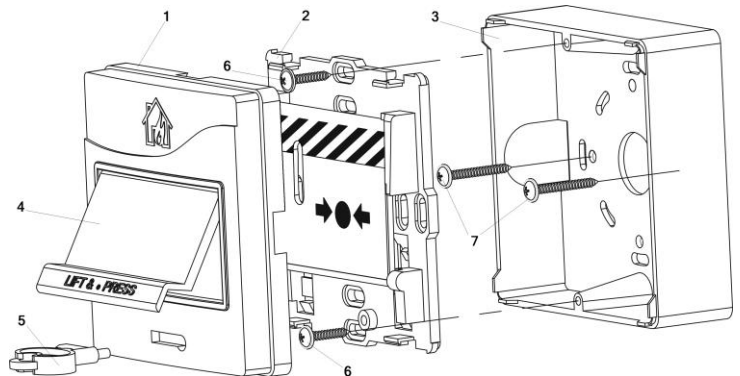

Figure 2
The call point (see Figure 2) is to be mounted using the two screws to a wall in accordance with your applicable local standards, codes, regulations, and ordinances. The installation order is as follows.
Figure 2 shows the call point in disassembled state:
2.5.4. Reset the call point to its Norm state by inserting the special key provided (5 in Figure 2) and turning it in the relevant keyhole. Verify the call point LED starts flashing once per 4 s. From the panel or PC issue a command to cancel the alarm sent by the call point.